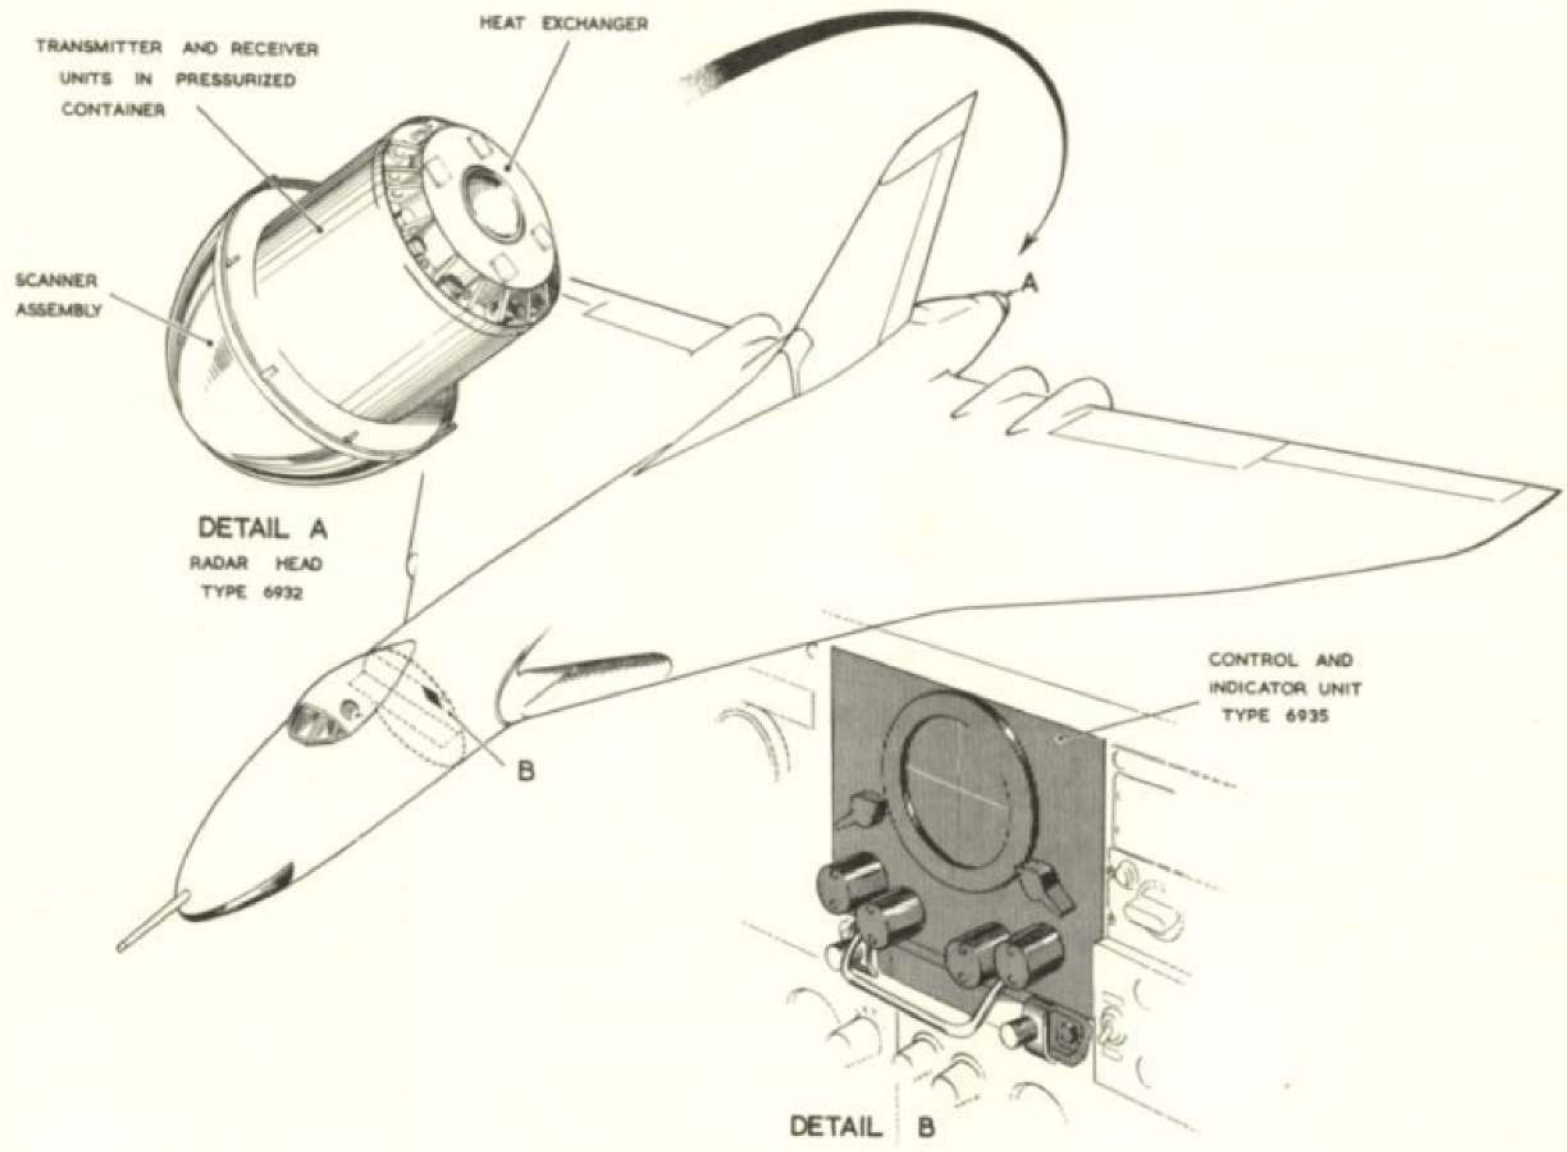

Fig. 1. Location of A.R.I. 5919 equipment
6. This unit is installed on an anti-vibration mounting tray on the navigator's panel as shown in fig.1 and provides bearing and range information of other aircraft within a 90 deg. cone to the rear. The unit has six main controls on the front viz., a rotary switch labelled, OFF-WARM UP - STANDBY, a similar switch, labelled RANGE 5-10-18, and four potentiometers labelled, GAIN, BRILL., CONTRAST and MARKER BRILL. respectively. In addition, two toggle switches, labelled SW. GAIN and marker are provided. Further details of the unit will be found in the associated Air Publication.